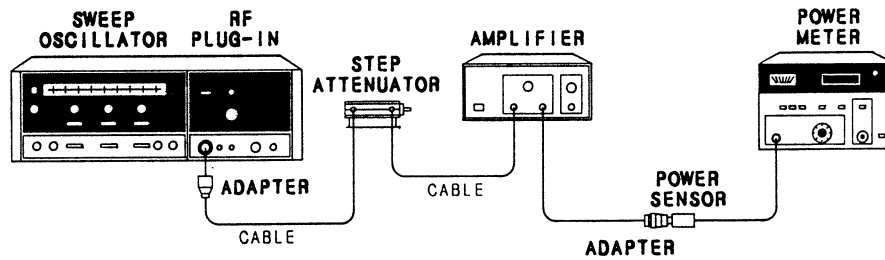

Figure 4-1. Frequency Response, Absolute Power Level Accuracy Test Setup
1. Connect the equipment as shown in Figure 4-1, leaving the HP 11975A unconnected.